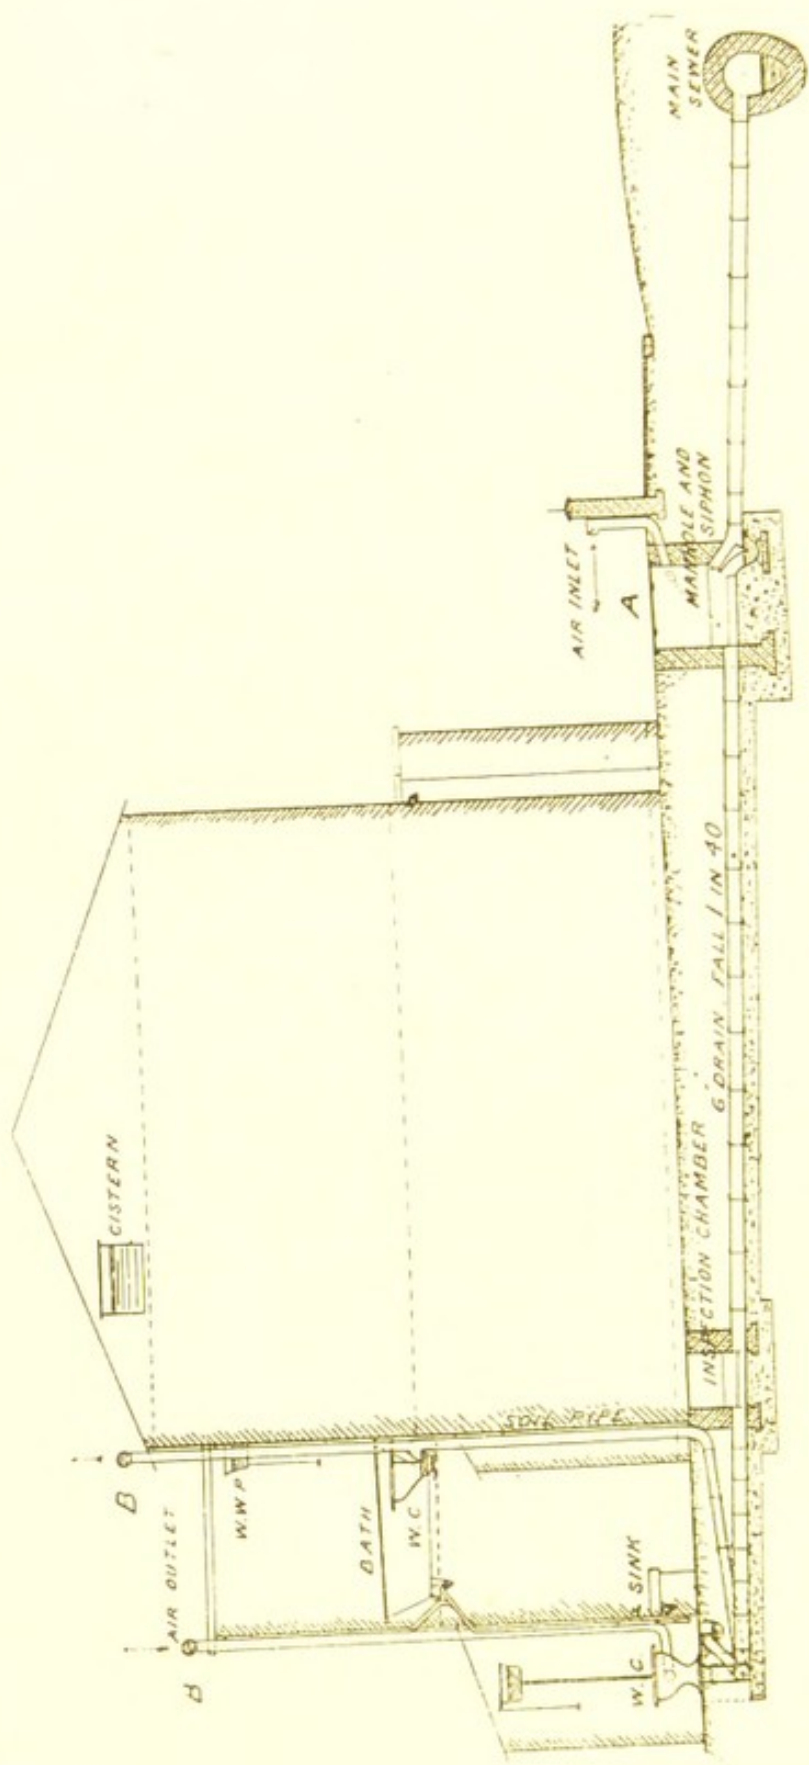

FIG. 19.
*The Disconnection of the House Drain* from the public main sewer or from a cesspool or other outfall is illustrated by the accompanying Figs. 19 and 20. Sometimes simply an intercepting trap is fixed, but in all good work a proper manhole built in brick and cement, with an open channel and intercepting trap as shown in Fig. 19, should be built at A.
In Fig. 19 an intercepting trap is used to trap off the main, and the fresh air enters the house drain at the manhole *A*, and passes out at *B*, thus making a continuous circuit of fresh air in these drains.